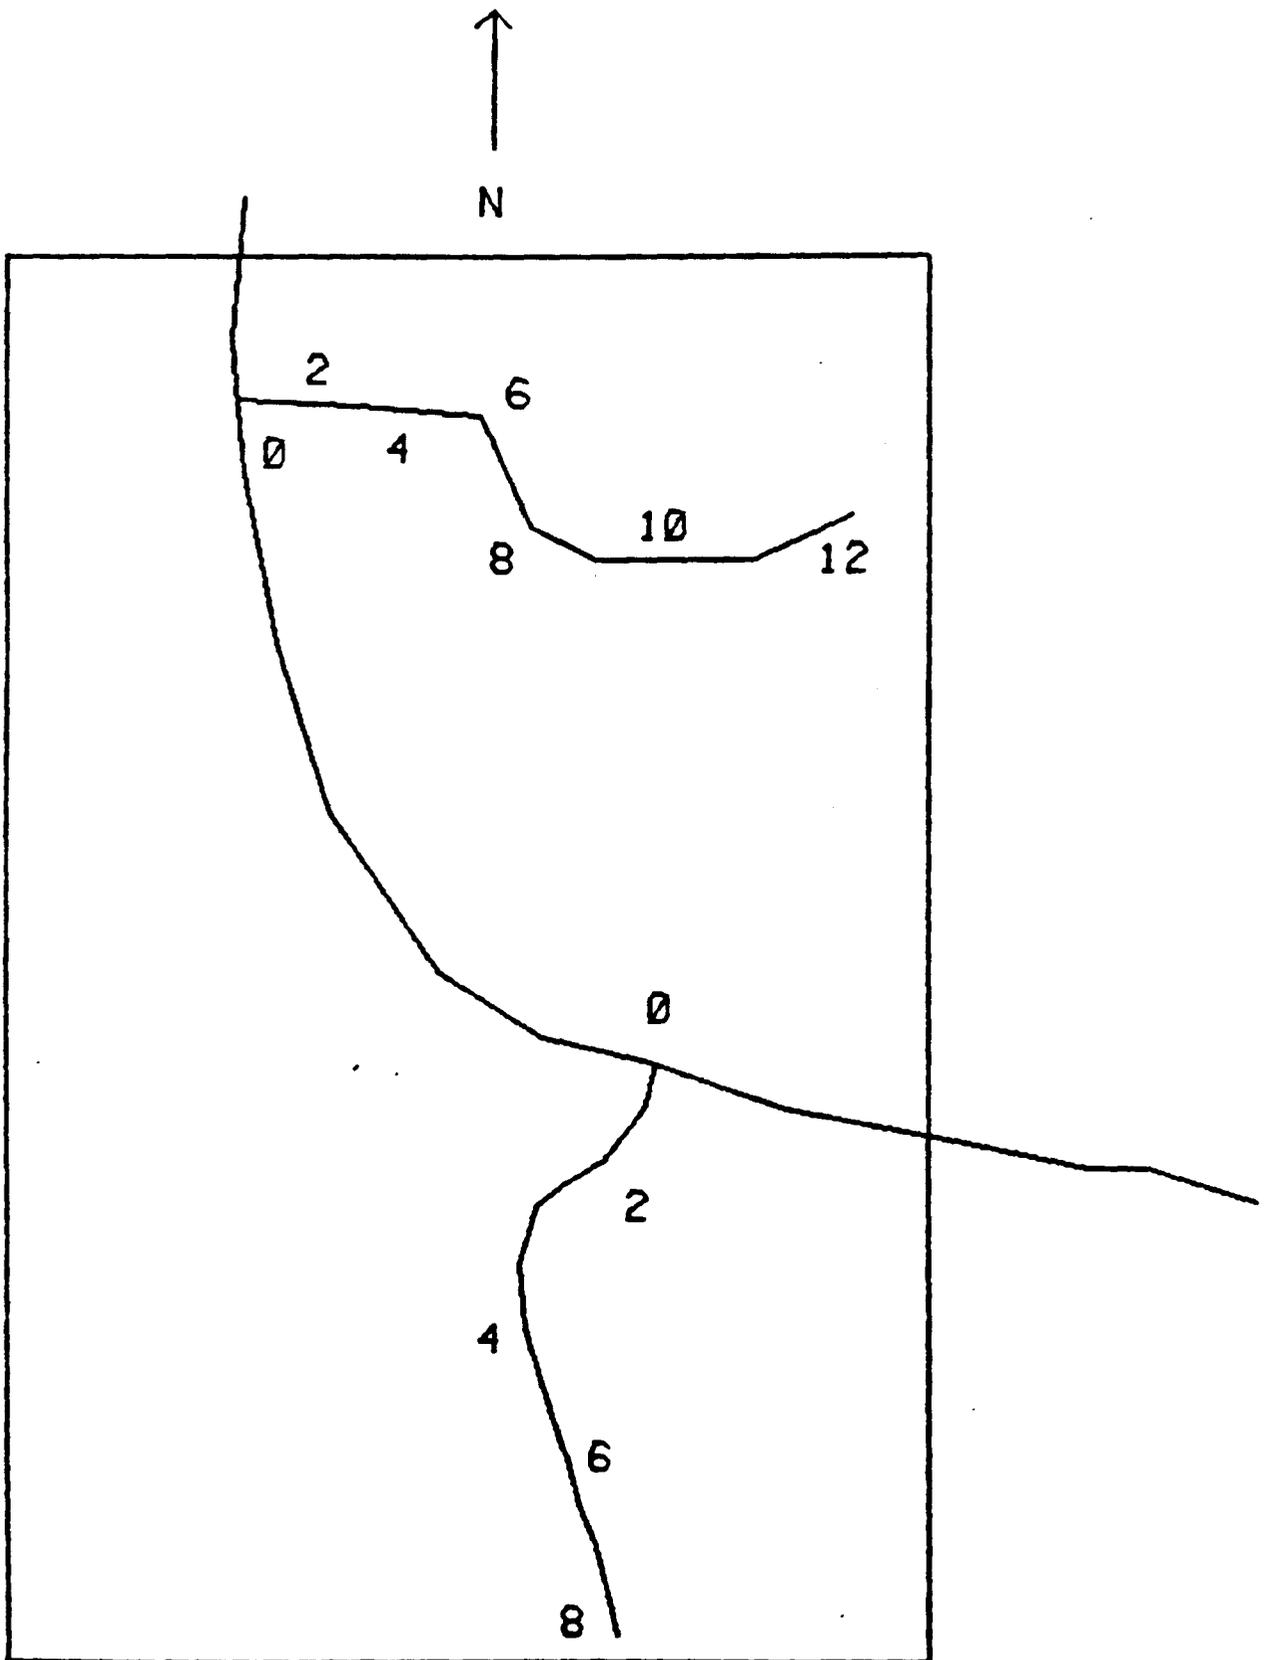

Figure 2.2 -- Milepost Numbering for Non-Interstate Roads Within a County
2. If the road (non-Interstate) begins within a county, milepost 0 is located at the northern or western end of the road. Refer to Figure 2.2.